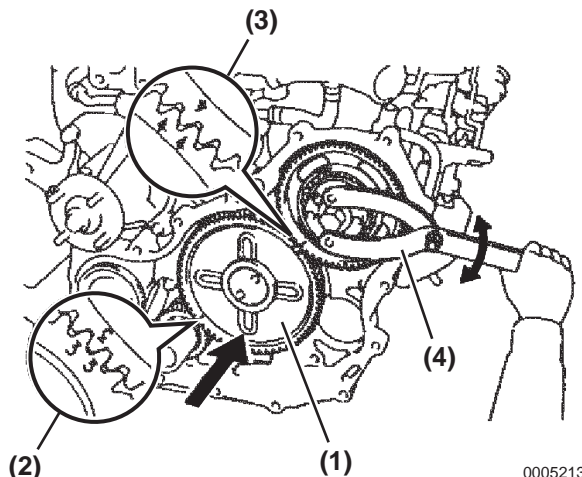

Figure 5-213
9. Align timing marks "3" and "4" of the idler gear **(Figure 5-213, (1))** to the corresponding timing marks "3" **(Figure 5-213, (2))** of the crankshaft timing gear and timing mark "4" **(Figure 5-213, (3))** of the fuel injection pump drive gear by turning the fuel injection pump drive gear using a suitable tool **(Figure 5-213, (4))**.